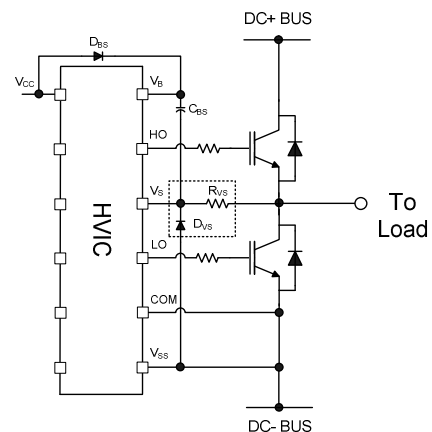

**Figure 35: Supply capacitor**
**Supply Capacitor:** It is recommended to place a bypass capacitor ( $C_{IN}$ ) between the  $V_{CC}$  and  $V_{SS}$  pins. This connection is shown in Figure 35. A ceramic  $1\ \mu\text{F}$  ceramic capacitor is suitable for most applications. This component should be placed as close as possible to the pins in order to reduce parasitic elements.